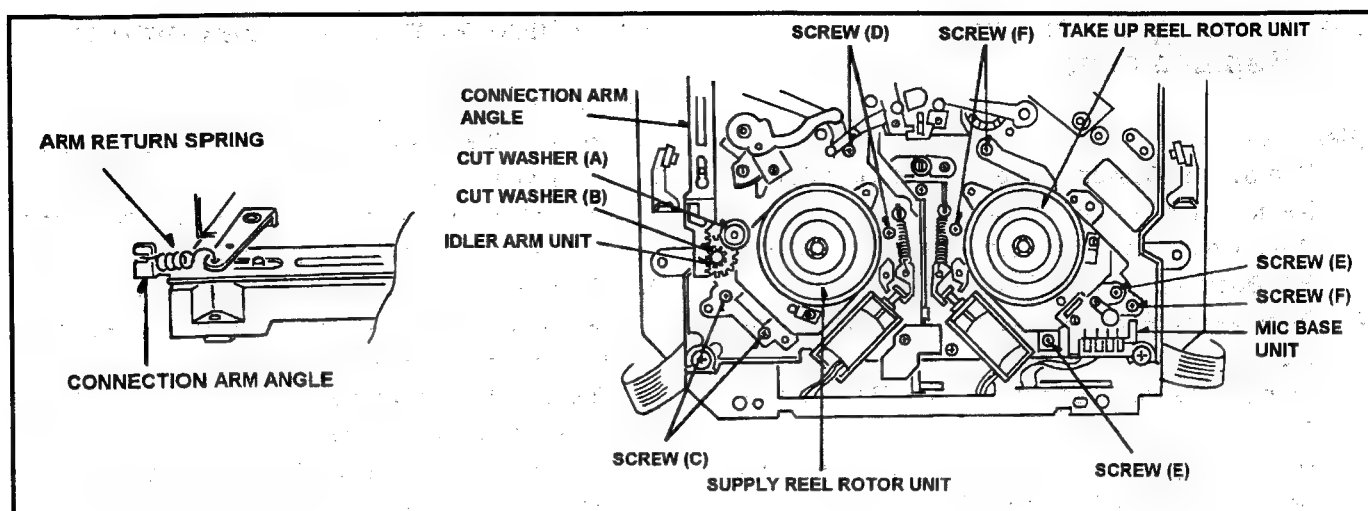

Fig. 8-3-2 Removal of Supply & Take Reel Rotor Unit
4. Remove the S5 Post (Refer to item 8-14).
7. Remove the **Cut Washer (A) and (B)** to remove the Idler Arm Unit as shown in Figure 8-3-2.
8. Unscrew the **4 screws (C)** to remove the Supply Reel Rotor Unit as shown in Figure 8-3-2.
3. Remove the Mechanical Chassis Unit (Refer to item 7-6).
4. Disconnect the connector P615 on the Servo P.C.Board and unscrews the 2 screws (E), and then remove the MIC Base Unit.
5. Unscrew the 3 screws (F) to remove the Take Up Reel Rotor Unit as shown in Figure 8-3-2.